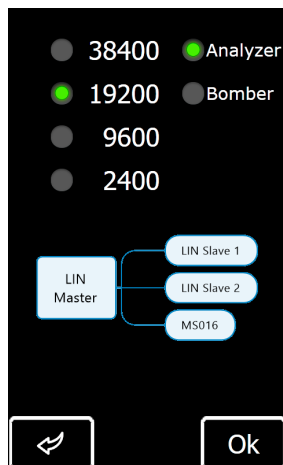

Figure 26. Screen to select a mode and a LIN bus speed
3. In the main menu on the tester screen select “LIN Analyzer” and then “Analyzer” (Fig.26) and the bus speed. As you push “OK”, the data transmitted via the LIN bus will appear on the tester screen (Fig. 28).
3. In the menu on the device screen select “LIN Analyzer”, then “Bomber” and set a LIN bus speed (Fig. 26). Once you push “OK”, the test mode window will appear (Fig. 29).